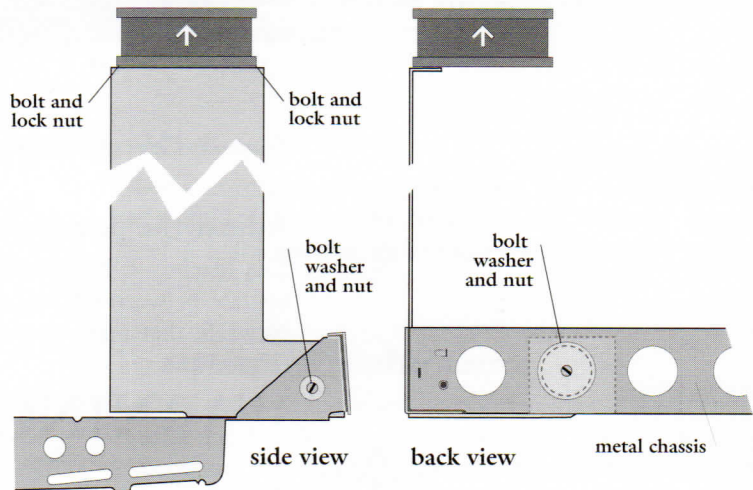

Figure 14 : The fan assembly installation
1. Attach the fan to the bracket with two bolts and nuts. The arrow on the fan showing the direction of air flow, should be pointing up as illustrated in Figure 14.